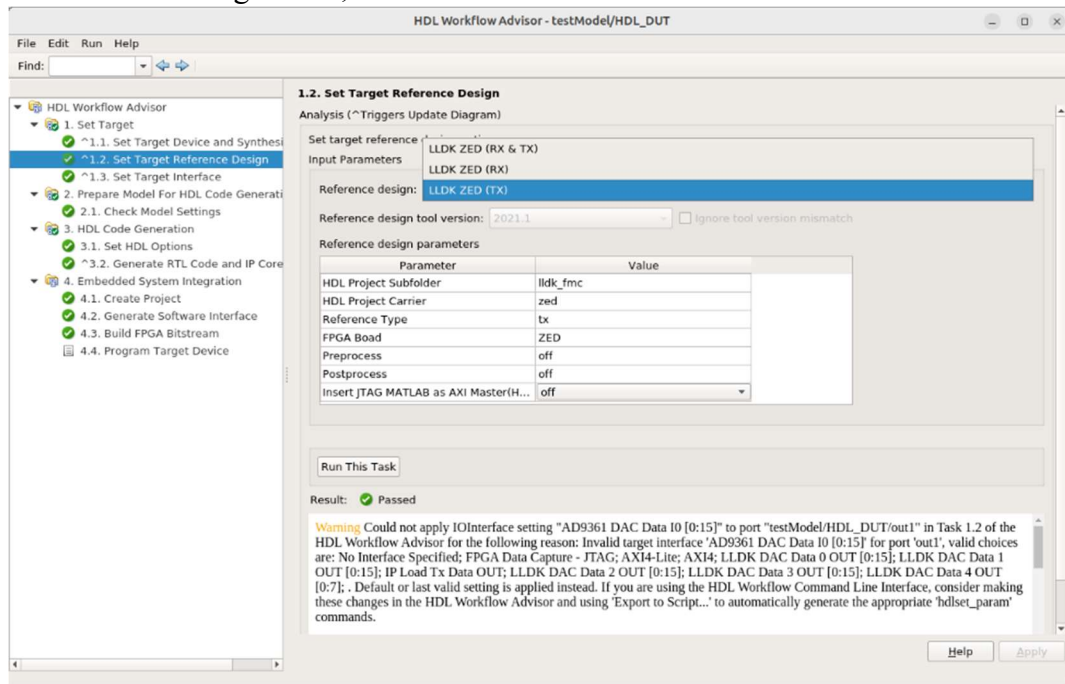
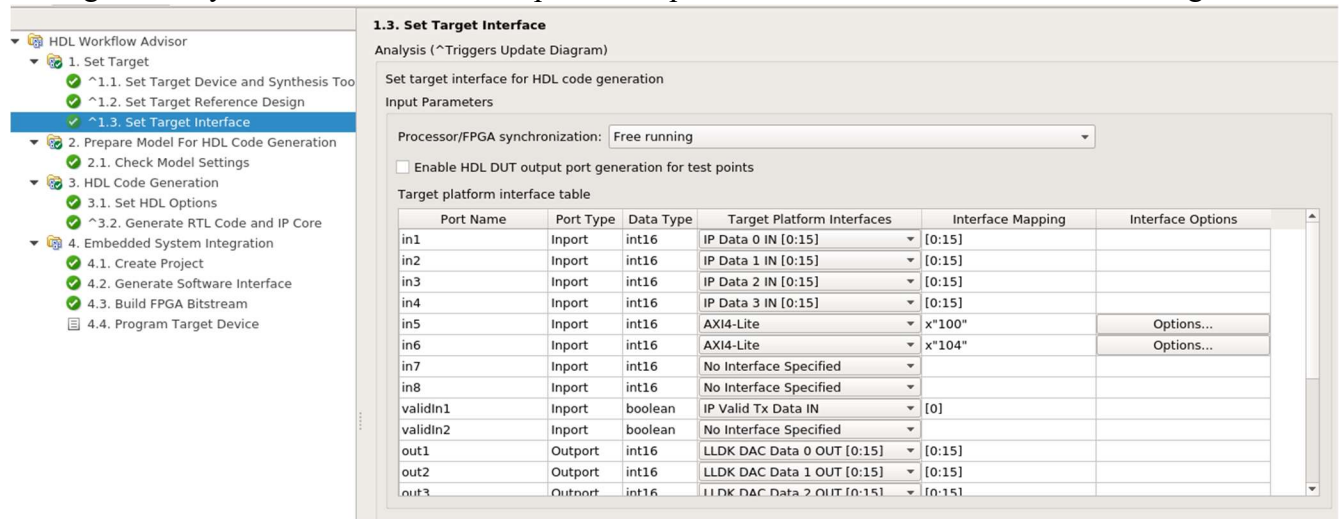

Figure 9. Set Target Reference Design
Figure 10. Set Input Target Interface
1.3 Assign the data ports as described in Figure 9 and Figure 10, add as many Input/Output registers as you need. Table 1 shows port descriptions for HDL DUT Tx Reference Design.